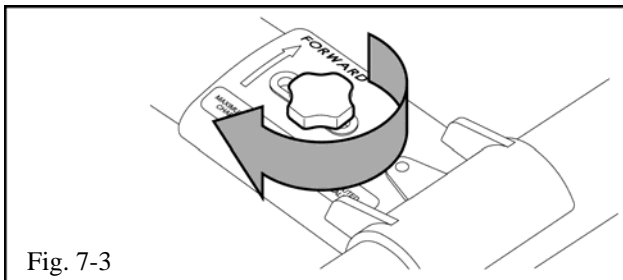

Fig. 7-3
- ⚠ (c) Re-tighten knobs in adjustment slots. (Fig. 7-3)